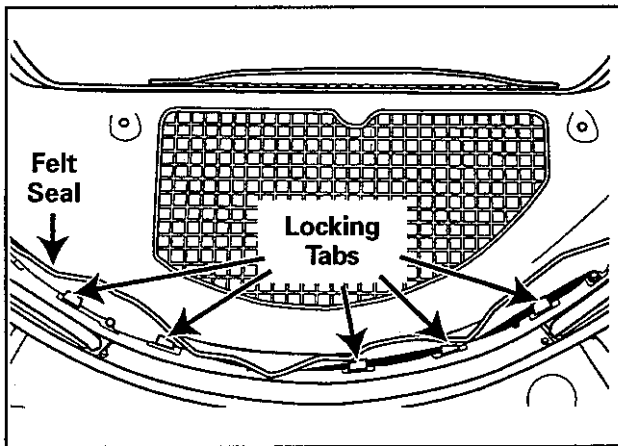

Figure 10-6
- Remove the old felt seal by prying the locking tabs up with a flat blade screwdriver, (See Figure 10-6).